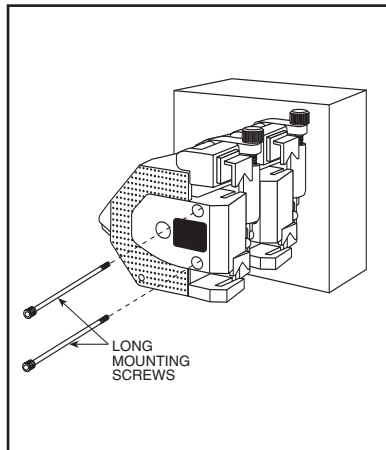

Figure 3-7. Securing Both Pumps to the Motor
4. Refer to Figure 3-7. With the pumps and motor aligned, insert the optional LONG mounting screws through the mounting holes in both pumps, until they make contact with the threaded mounting holes in the motor.